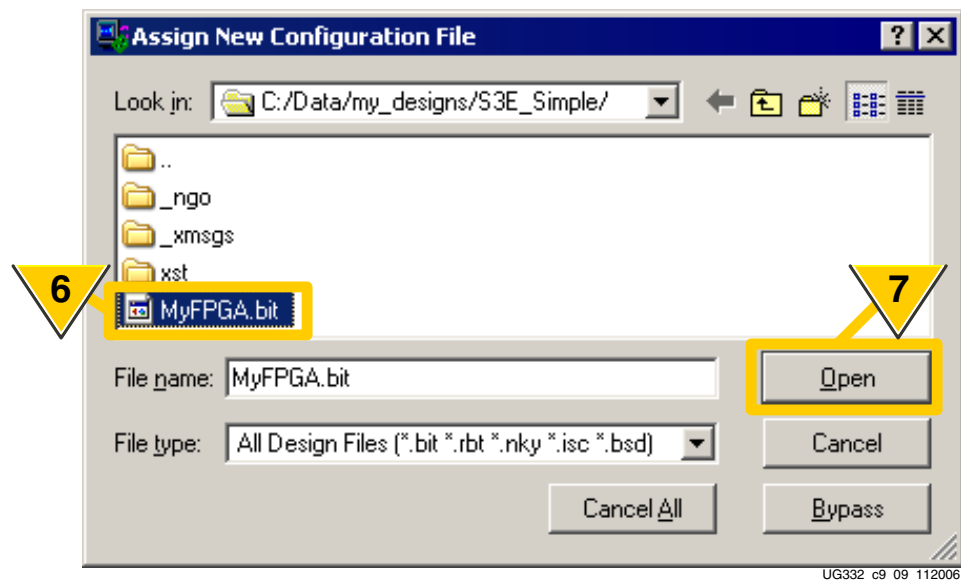

Figure 9-10: iMPACT Prompts for FPGA Bitstream
- As shown in Figure 9-10, the iMPACT software automatically prompts for the FPGA bitstream. Select the desired bitstream to download specifically to the FPGA.